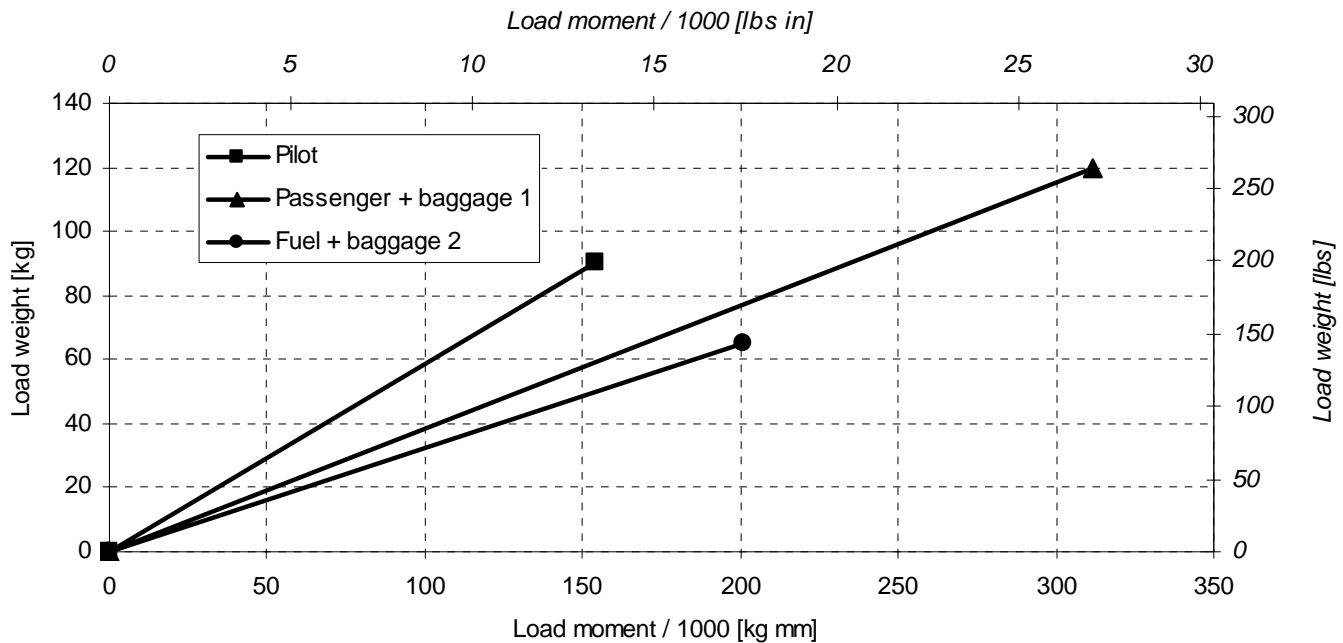

**Figure 4-2 Loading Arrangements**
**Loading Graph information for the pilot, passengers and baggage is based on seats positions and baggage loaded in the center of the baggage areas as shown on the Loading Arrangements diagram (figure 4-2).**